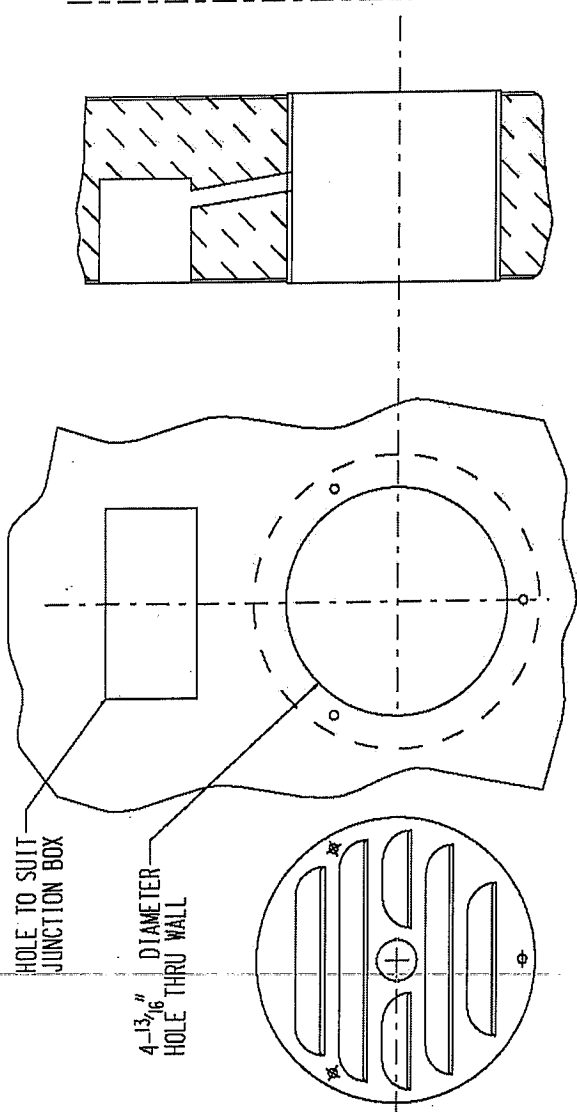

FIGURE 1
2. Mark a circle 6-1/16 inches in diameter in the selected location and mark the center. This is to be sure that the louvered covers will fit the selected location. Using the same center, cut a 4-13/16 inch diameter hole through the panel (Figure 1).
6. With the ground screw (in the valve assembly) in the bottom position, place the louver over the valve assembly with the openings facing down and line up the screw holes in the louver, the valve assembly, and the gasket. While holding the parts lined up, place the valve assembly into the sleeve (Figure 1).
7. Spot through the three (3) holes of louver and drill 1/8" holes for #8 sheet metal screws. Drive in the three (3) screws and the inside PRP assembly work is completed.
8. On the outside (warm side) of the freezer, assemble the louver, screen, flange, and gasket in the same manner as the inside parts were assembled and fasten with three (3) screws. CAUTION: BE SURE THAT THE WIRING DOES NOT INTERFERE WITH THE OPERATION OF THE VALVES.